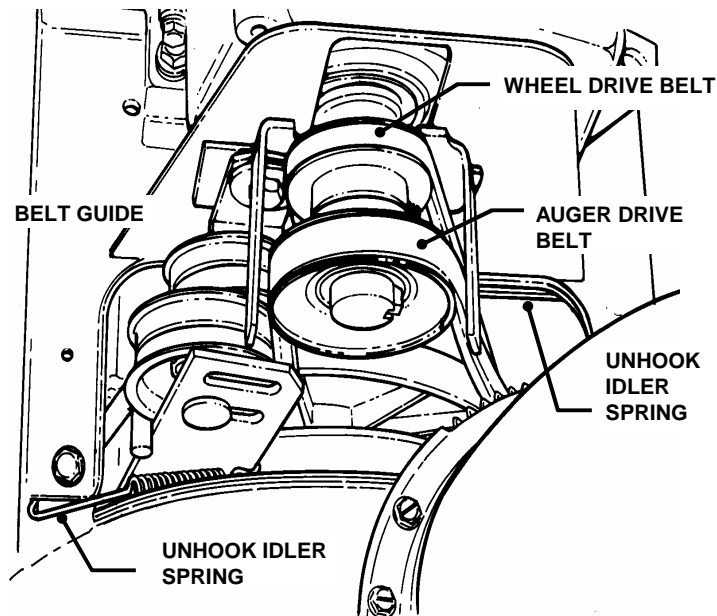

FIGURE 4.4
4. Loosen auger/impeller belt guide. See Figure 4.4.
5. Remove auger drive belt from around engine pulley. See Figure 4.4.